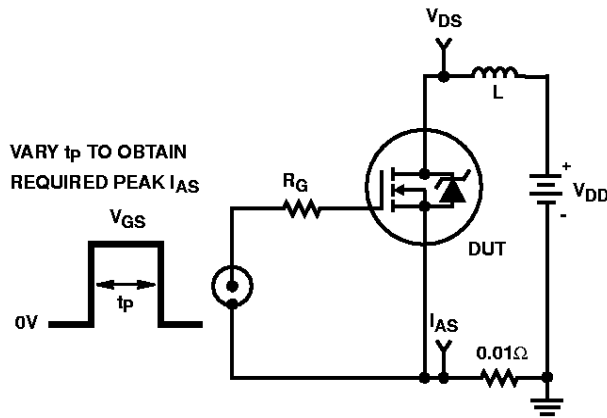

FIGURE 15. UNCLAMPED ENERGY TEST CIRCUIT
4.  $V_{DD} = 50\text{V}$ , starting  $T_J = 25^\circ\text{C}$ ,  $L = 3.37\text{mH}$ ,  $R_G = 25\Omega$ , peak  $I_{AS} = 18\text{A}$ . (Figures 15, 16).